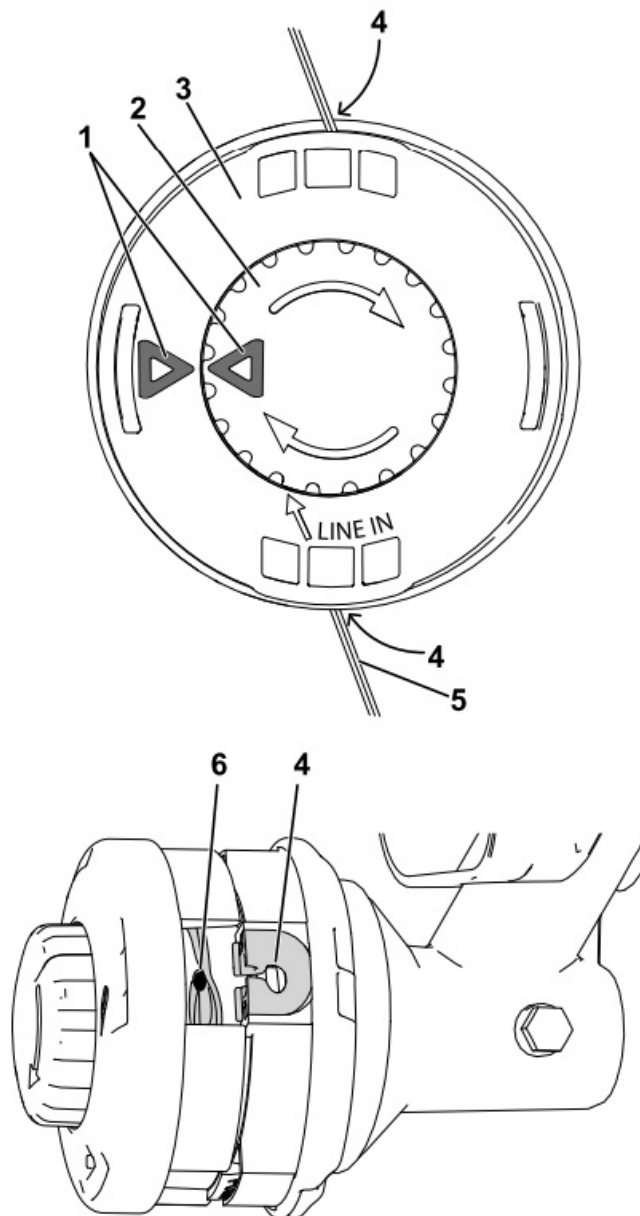

Figure 12
4. Press and turn the knob on the string head until arrow on the knob aligns with arrow on the string head (Figure 12).